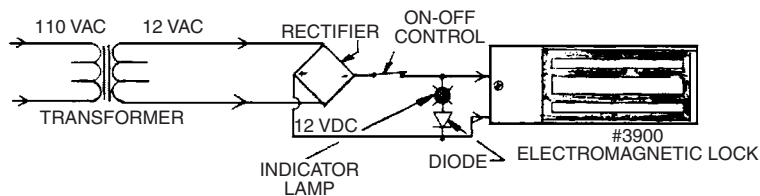

Figure 19.58 Model 3900 wiring, Step 2.
- Care must be taken when adding any auxiliary controls or indicators to the electrical circuit. Improper placement may cause a slight delay in door release (Fig. 19.58).
- Installation of the MOV is for arc suppression in ultra-high-usage installations to prevent switch contact deterioration. In any situation, though, the installation of a diode across the leads is not recommended (see Fig. 19.58).